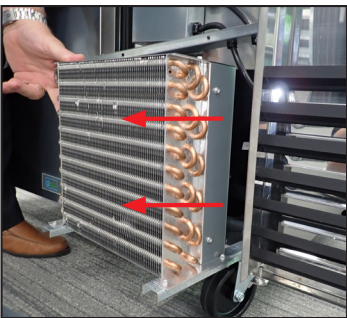

Fig. 6. Carefully slide the condensing unit out.
6. Carefully slide the condensing unit out (tubing connections are flexible). See fig. 6.